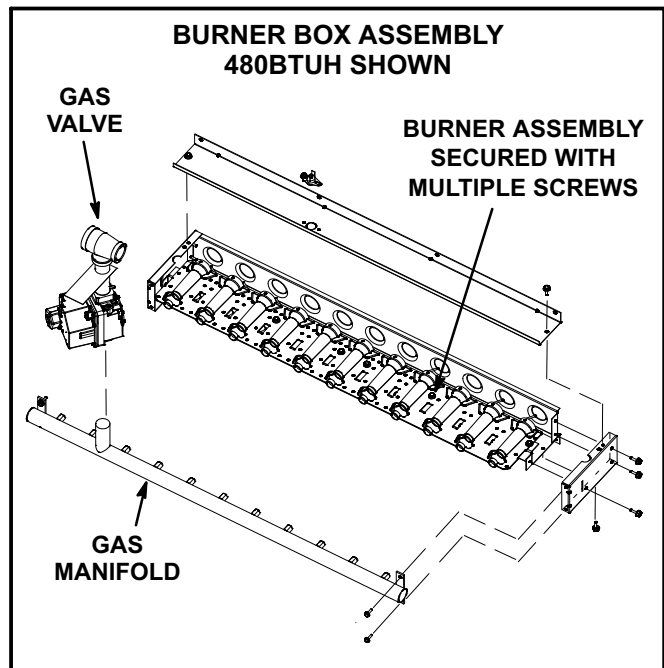

FIGURE 22
- 3- Remove screws securing burner assembly to burner support and remove assembly. See figure 22. Clean as necessary.